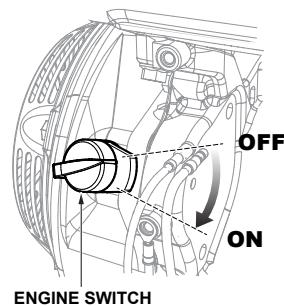

Figure 21. Engine ON/OFF Switch (ON)
5. Turn the engine ON/OFF switch (Figure 21) to the **ON** position.